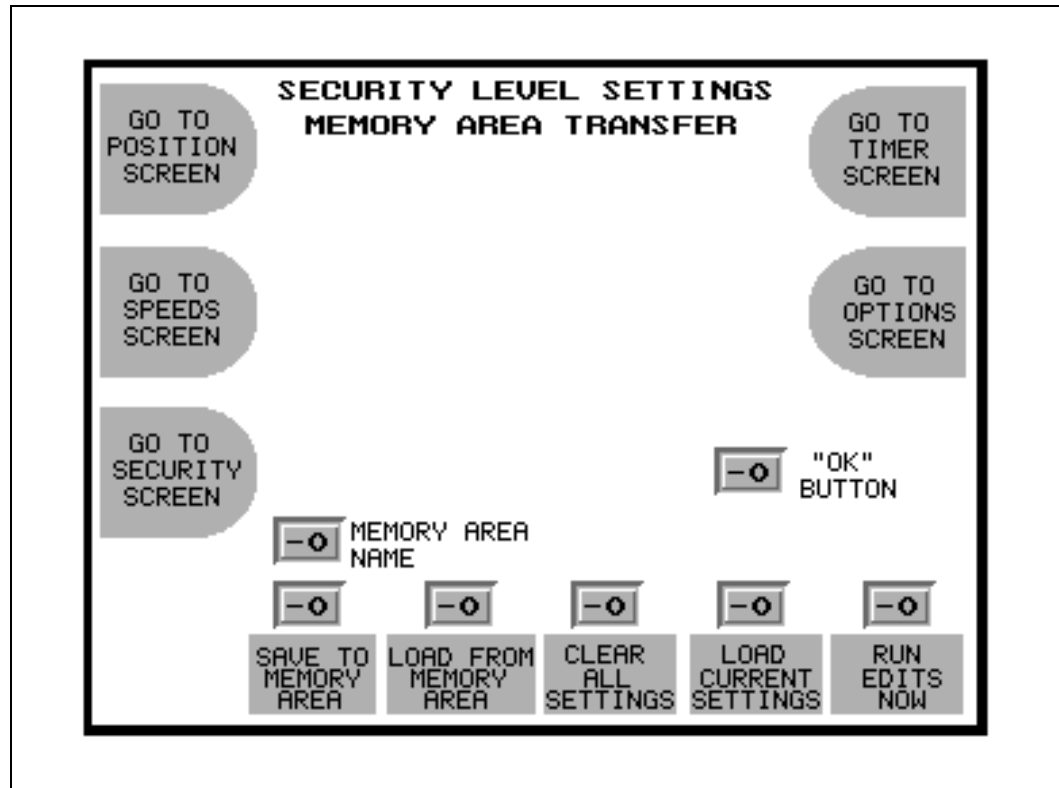

Figure 11-4: Security Level Settings Memory Area Transfer Screen
4. Press **TEACH LEVEL SCREEN** key to return to the Master Security Screen. Then press the **TEACH** key to access the Security Level Settings Memory Area Transfer Screen (Figure 11-4).